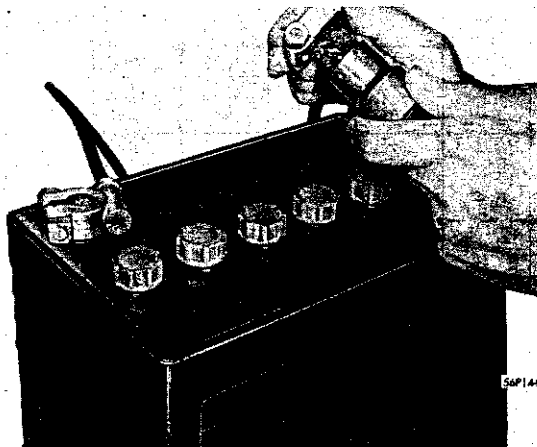

Fig. 1—Cleaning Inside of Cable Clamp
(4) Inspect the cables. Replace damaged or frayed cables.
(5) Inspect the terminal posts to see that they are not deformed nor broken. Clean the tapered battery terminals and the inside surfaces of the clamp terminals with the terminal cleaning tool, as shown in Figures 1 and 2.
(6) Examine the battery for cracks in the case, and raised cells. Inspect sealing compound for leaks. Reseal as necessary.
(7) Tighten the battery hold-down screw nuts to 3 foot-pounds torque.
(8) Observe the polarity of the terminals of battery to be sure the battery is not reversed and connect the cable clamps to the battery posts and tighten securely. Coat all connections with light mineral grease or petrolatum.
(9) If the electrolyte level is low, fill to the recommended level with mineral-free water.